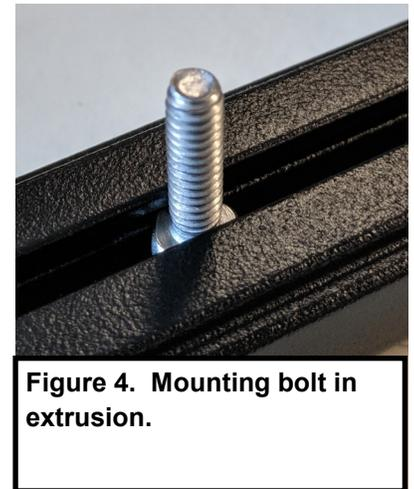

Figure 4. Mounting bolt in extrusion.
2. Slide the three 10-24 1.5" bolts in extrusion into position with the brackets on the vehicle, **Figure 4**.